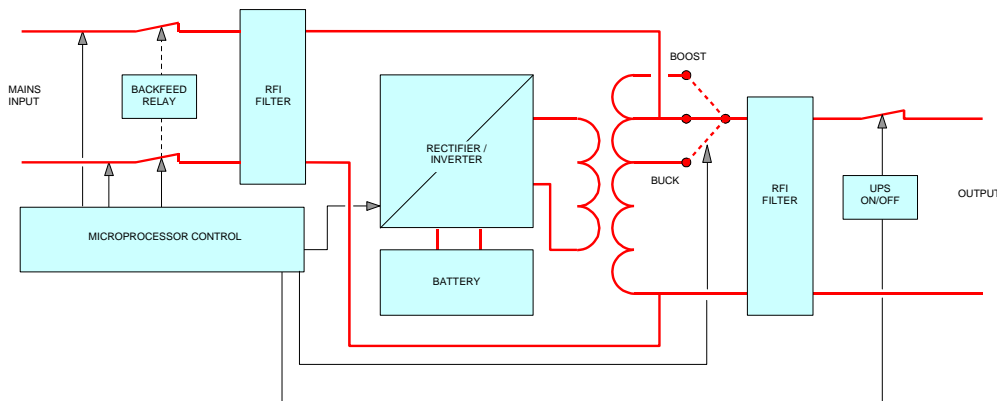

Figure 1 Block diagram of the ML 350-1000 UPS
Energy is stored as Direct Current (DC), while input and output energy must be Alternating Current (AC). Therefore the UPS contains a rectifier (to convert from AC to DC) and an inverter (to change energy from DC to AC). (See fig.1)